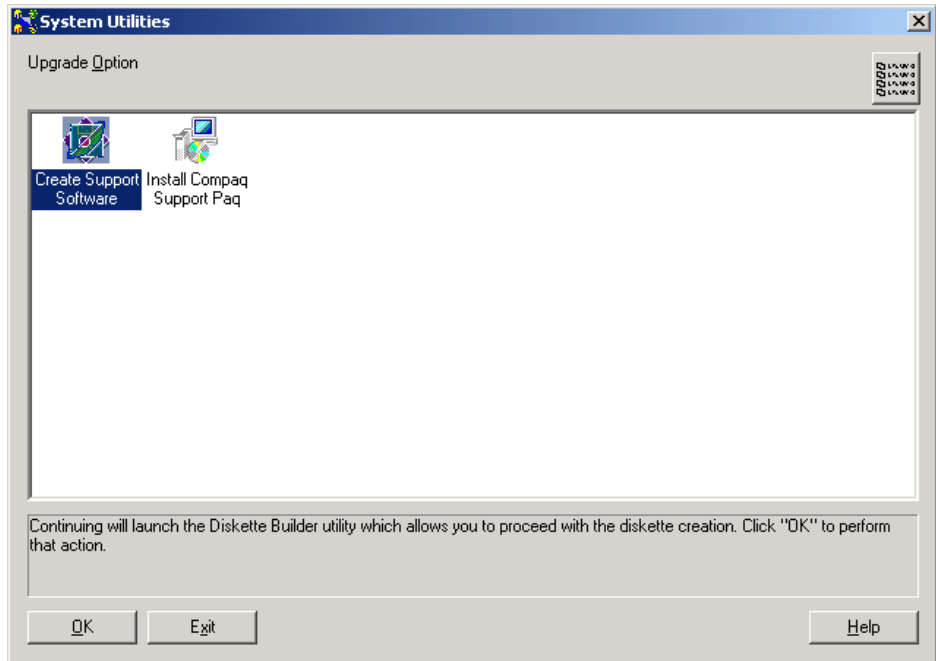

Figure 5-3. System Utilities window
3. The pop-up System Utilities window appears with 2 options, as shown in Figure 5-3.